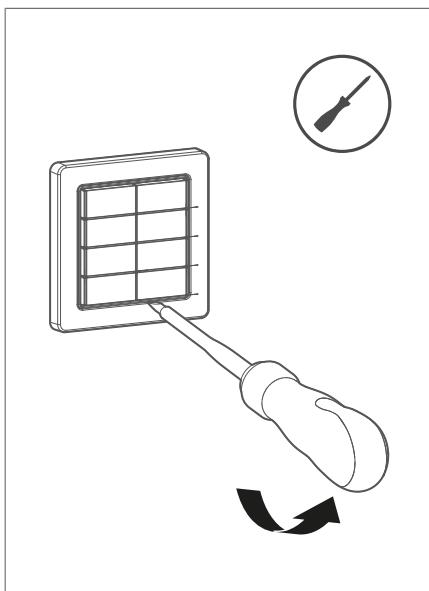

Fig. 18: Removing the buttons
- 1 Remove the buttons from the push-button module (see Fig. 18).